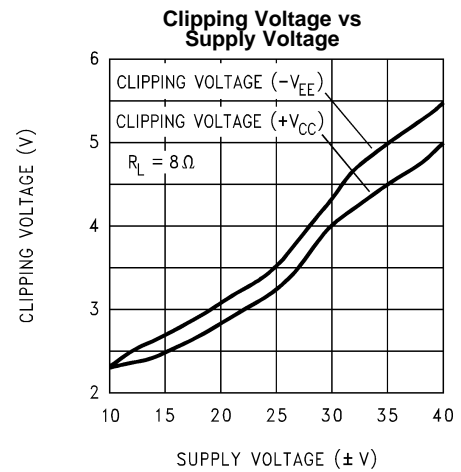

Figure 15.
(9) The output dropout voltage is the supply voltage minus the clipping voltage. Refer to Figure 15 in Typical Performance Characteristics.